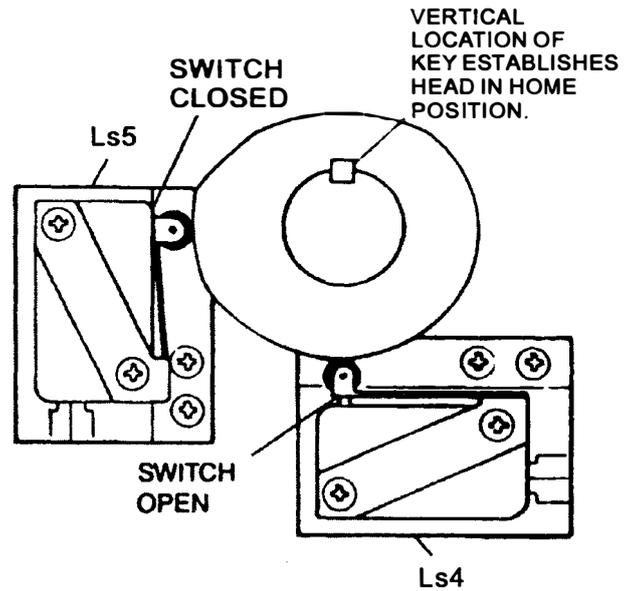

FIGURE 22. Ls4 AND Ls5
2. If the micro-switches need adjusting, loosen the mounting screws and set LS4 and LS5 as seen in FIGURE 22. When properly set, tighten the mounting screws.
1. **Adjust the clearance of LS5 in relation to the Switch cam. Refer to Figure 22.**